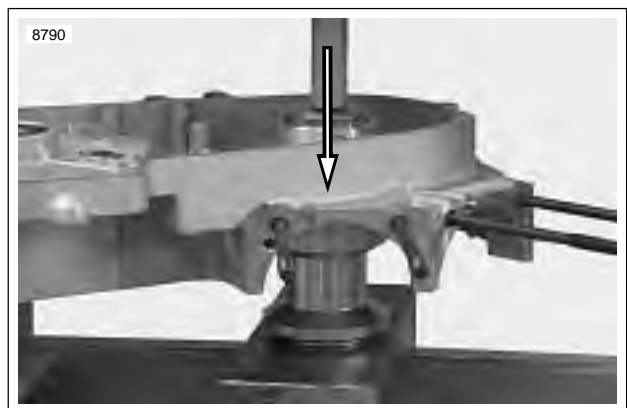

Figure 3-141. Direction of Bearing Removal From Left Crankcase
- See Figure 3-141. Using CRANKCASE BEARING REMOVER/INSTALLER (Part No. B-45655 and HD-42720-2) press left main bearing out of the left crankcase half.